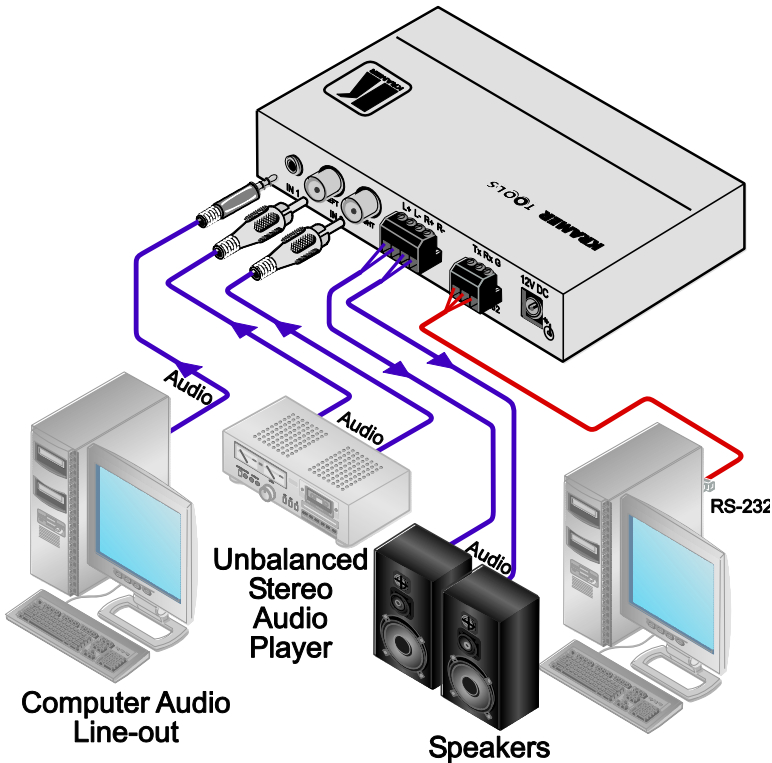

Figure 3: Connecting the 900xl Power Amplifier
To connect the **900xl**, as illustrated in Figure 3, perform the following:
4. Connect the 12V DC power adapter to the power socket and connect the adapter to the mains electricity (not shown in Figure 3).
- To choose audio input source 1 (the PC line-out as shown in Figure 3), press INPUT 1 button.